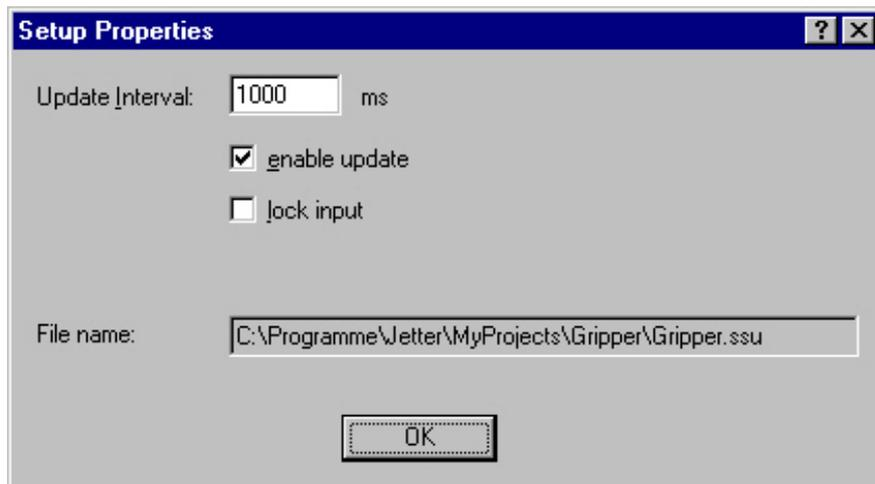

Abbildung 5
- You can view the *Properties* of the setup window (see figure 5) via context menu.